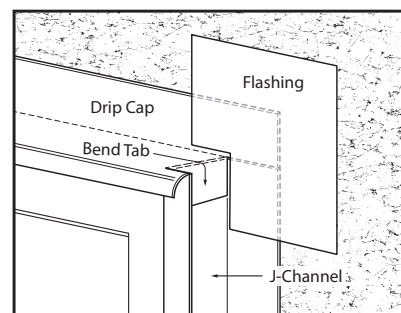

Figure 4.2.3
- iv. Install flashing on upper corners over drip cap and J-Channel joint to prevent moisture damage issues. (Figure 4.2.3)